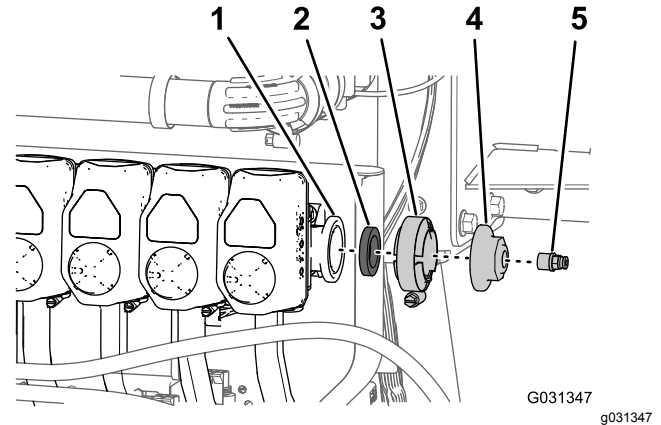

Figure 183
- Remove the tube coupler from the cap at the flange at the right end of nozzle valve 10 (Figure 183).
- Remove the flange clamp, gasket, and end cap from nozzle valve 10 (Figure 183).